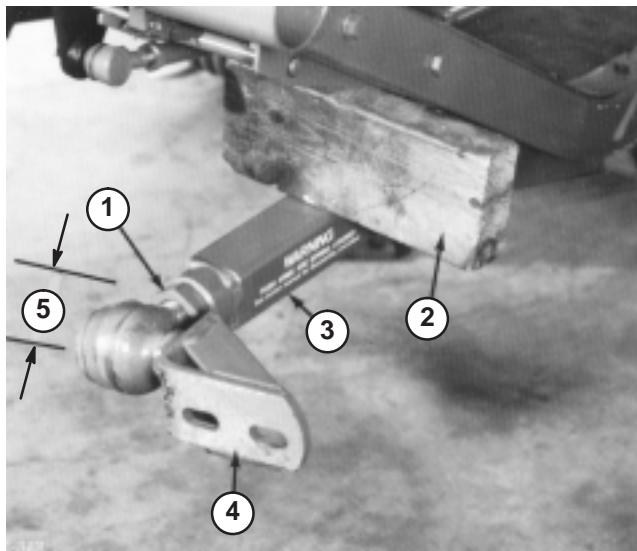

Figure 20
3. Have a helper push down on the left push arm. Then insert a 2 x 4 in. (51 x 102 mm) block of wood between the frame and top of the push arm (Fig. 20). Screw ball joint into left hand push arm until center of ball joint is 2-3/8 in. (60 mm) away from front of push arm (Fig. 20). Do not tighten jam nut.